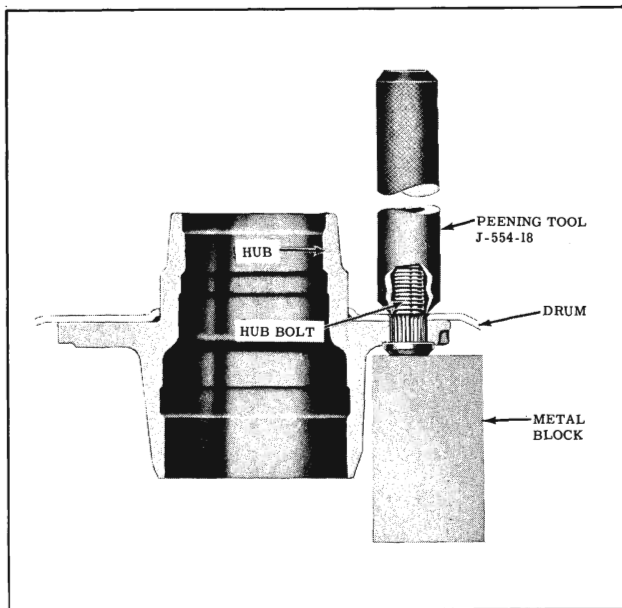

Fig. 5-6 Peening Hub Bolt
4. While supporting hub bolt, peen hub bolt into the countersunk area of drum with the use of Peening Tool J-554-18 until the drum is secure to the hub. (Fig. 5-6)